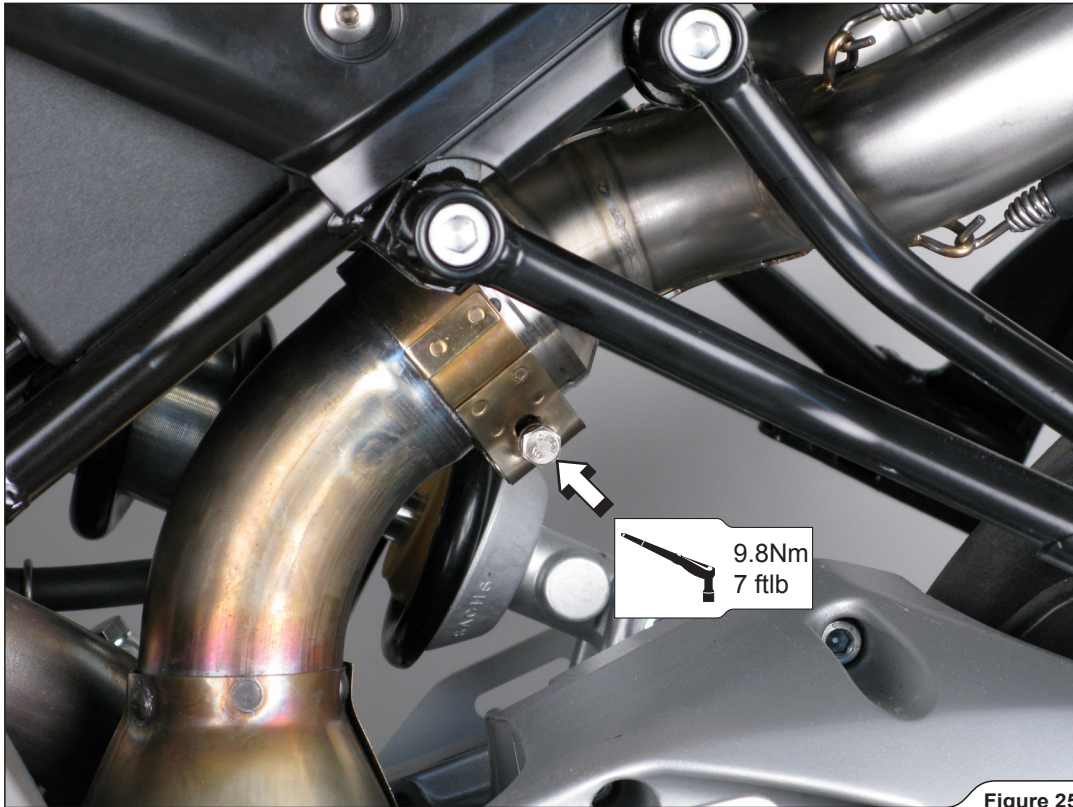

Figure 25
13. Tighten the stock metal clamp to a specified torque (**Figure 25**).